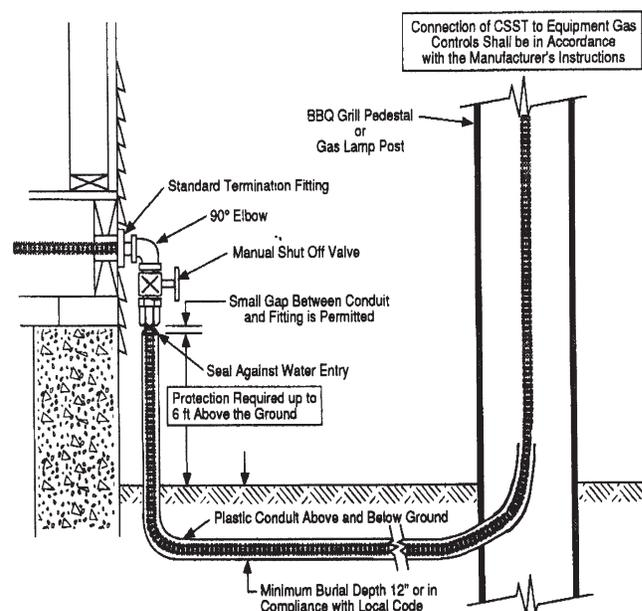

Figure: 4-21
4. Yard mounted lights shall be connected to the **CounterStrike**® system as shown in Figure: 4-21. All piping installed below grade shall be protected by non-metallic, water-tight conduit or **TracPipe PS-II** for underground use. Exposed ends of the conduit shall be sealed against water entry.